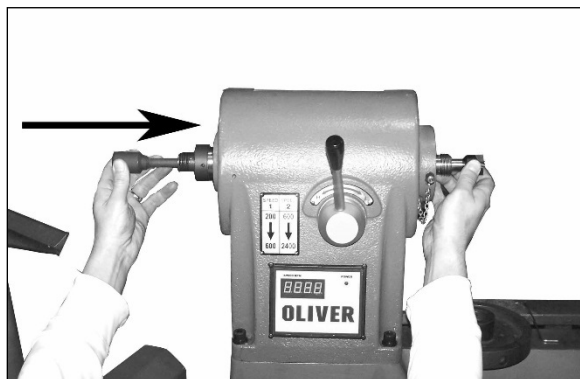

Figure 18a
2. To remove the spur center, first remove the workpiece from the lathe, insert the knockout rod through the hole in the outboard spindle then firmly tap the end of the spur center shaft. See Figure 18a.